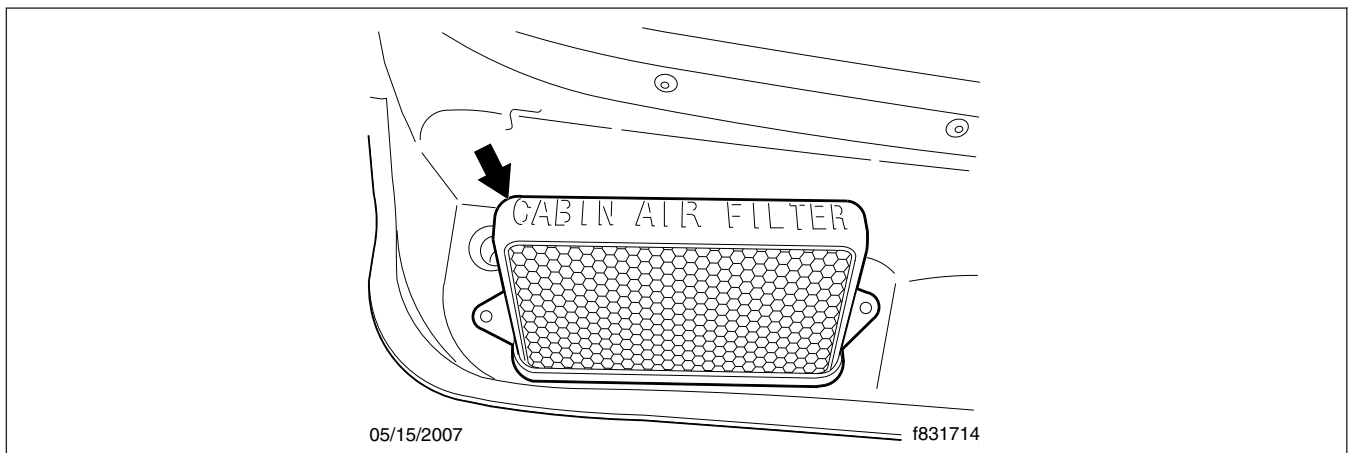

Fig. 7, Fresh-Air Intake Screen
19. Remove the HVAC fresh-air intake screen. See Fig. 7.